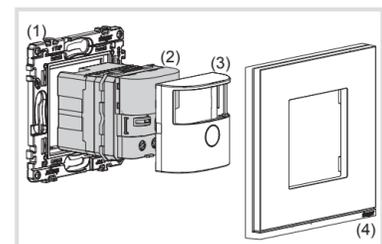

Figure 1: Design and layout of the device
**Design and layout of the device (Figure 1)**
- (1) Modular supporting ring WXA45.. (not within scope of delivery)
- (2) Motion detectors
- (3) Design cover for motion detector WXD050.. (not within scope of delivery)
- (4) Frame WXP.. (not within scope of delivery)